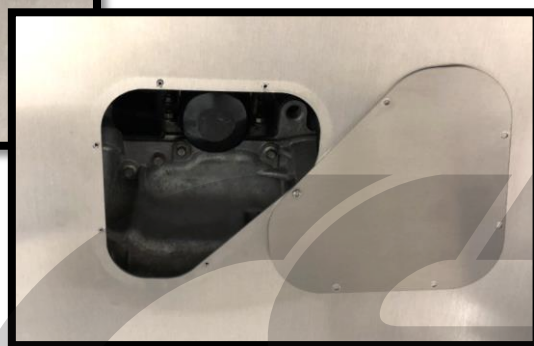

Figure 4b
- Rotate the oil filter access cover out of the way. Shown in **Figure 4b**.